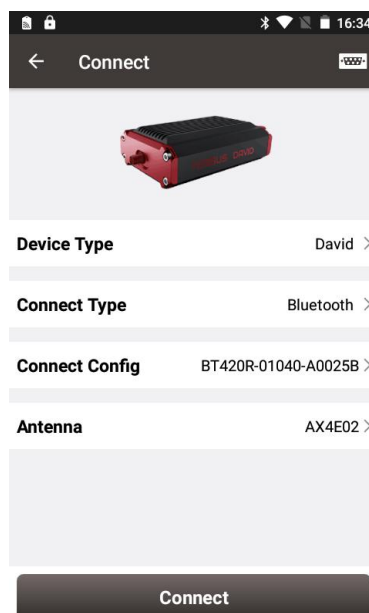

Figure 6.2 Connect David30 via Bluetooth
6. Select [Bluetooth] in the option list of Connect Type as shown in Figure 6.2.